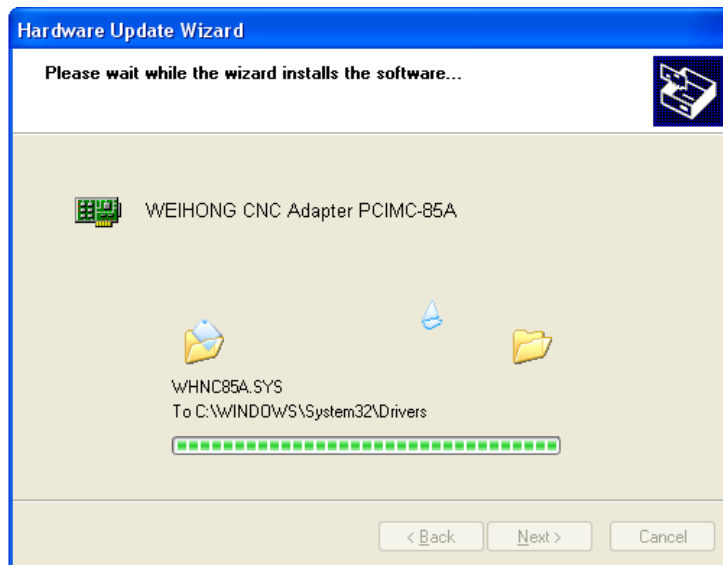

Fig. 4-7 Updating the driver
- 7) Click “OK” to go back, and then click “Next” to start updating the hardware driver with the progress bar displayed. See Fig. 4-7.